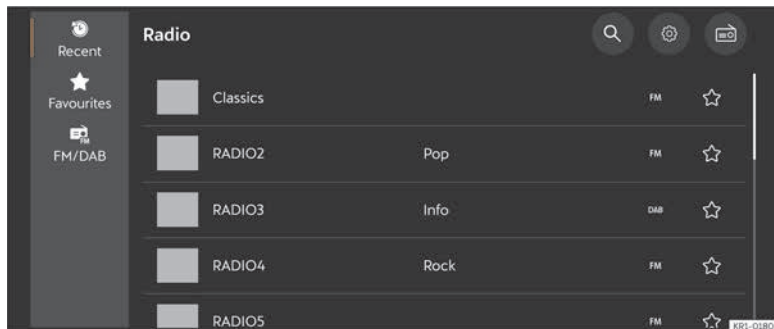

Fig. 165 Schematic representation: Radio view.
- Press **MENU** > >>> **Fig. 165**.